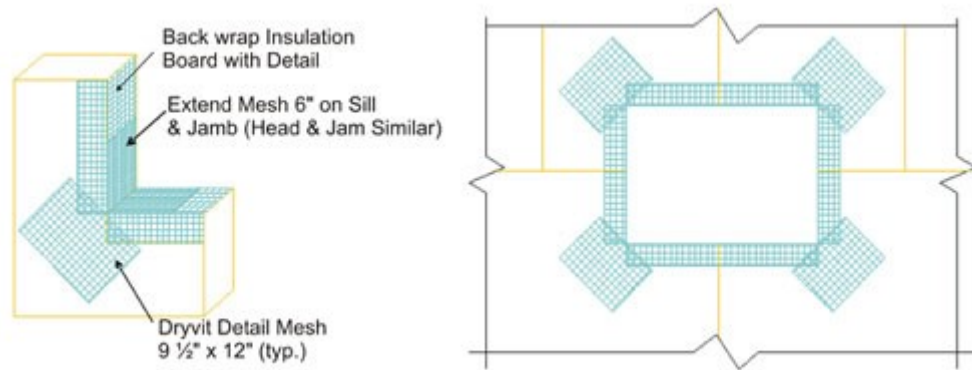

Figure 10: Fig. 10 : Rough Openings
- r) Corners of all openings such as windows, doors, mechanical equipment and all penetrations shall be reinforced with Detail Mesh placed diagonally to the opening as illustrated in Figure 10.